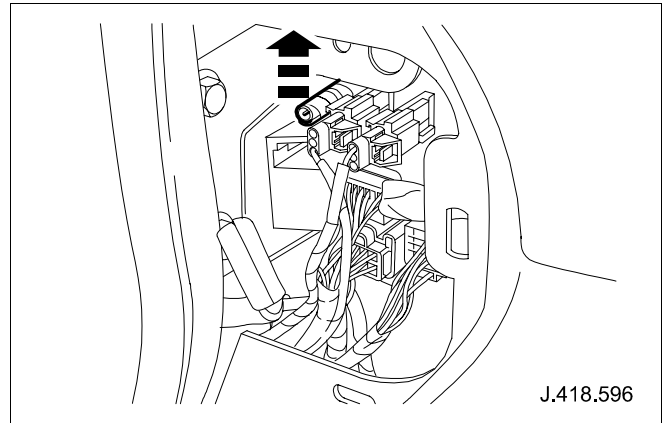

Fig. 23
- 78 Displace Jaguar link lead socket plastic fir tree clip from multi plug plastic support. (See Fig. 23)